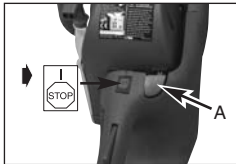

Abb. 9A
1. To start the saw, push the switch (ON/OFF switch) to the ON (I) position (Fig. 9A).